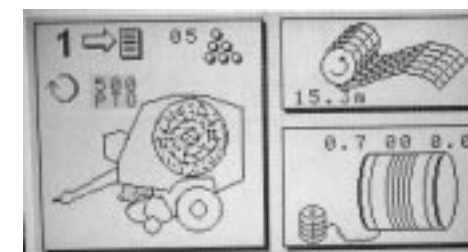

Fig.24c - Début liage double
- Liage double simultané (**Fig.24c**)